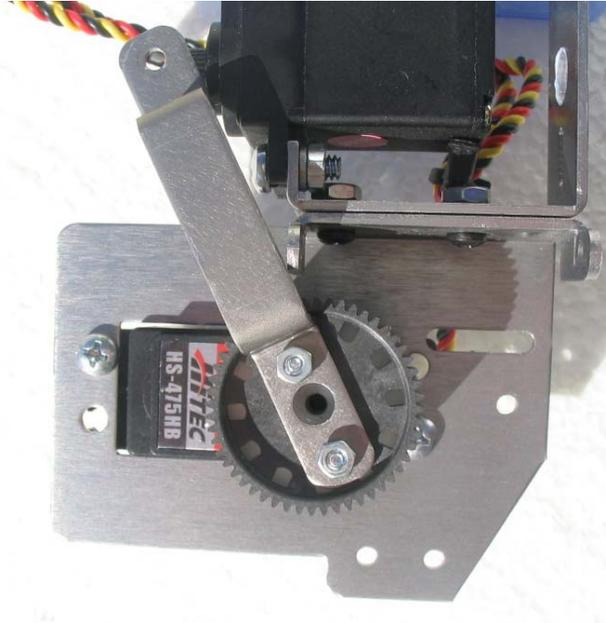

Figure 9
7. Install the servo gear brace assembly (The one with the larger, slightly offset center hole of the 3-hole pattern) to the palm servo as shown in figure 9. Ensure that the servo gear brace assembly can swing freely from the far, upper left corner of the palm to the point of the palm before securing it with the stock servo screw as illustrated in figure 9 and 10.